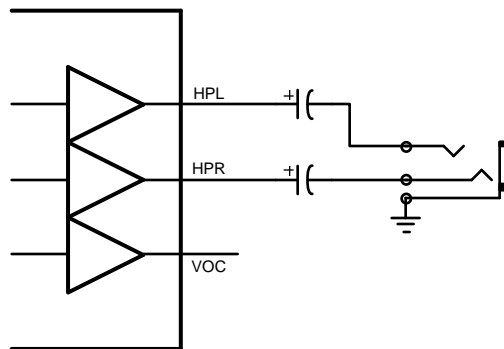

Figure 6. Capacitor Coupled Headphone Mode
In capacitor coupled (CC) mode, the VOC pin is disabled, and the headphone outputs are coupled to the jack through series capacitors, allowing the headphone return to be connected to GND (Figure 6). In CC mode, the LM4949 requires output coupling capacitors to block the DC component of the amplifier output, preventing DC current from flowing to the load. The output capacitor and speaker impedance form a high pass filter with a -3dB roll-off determined by: